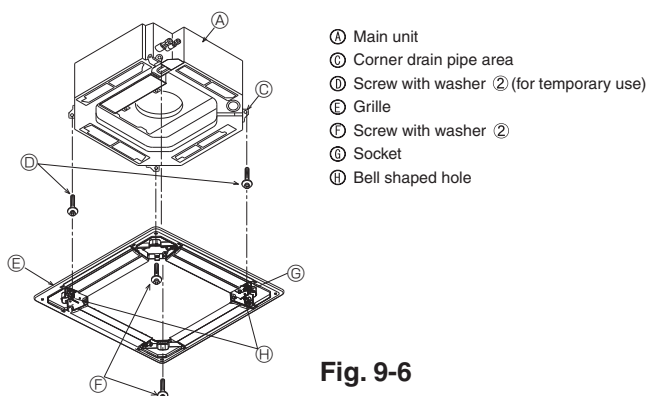
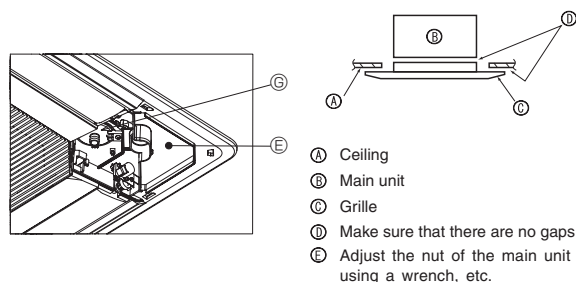

Fig. 9-6
Fig. 9-7
9.4.2. Temporary installation of the grille (Fig. 9-6)
- Temporarily secure the grille using the bell shaped holes by putting the socket of the grille marked ⑥ on the corner drain pipe area of the main unit.
9.4.3. Securing the grille (Fig. 9-7)